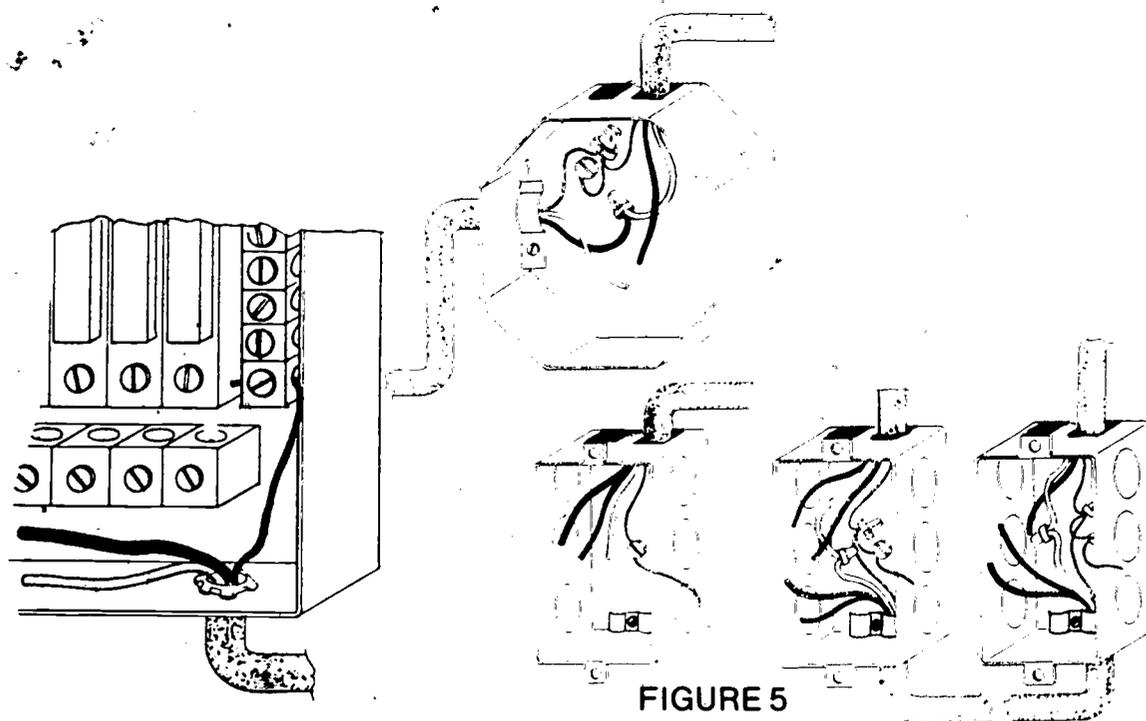

FIGURE 5
M. Connect switch leg through the system (Figure 5)